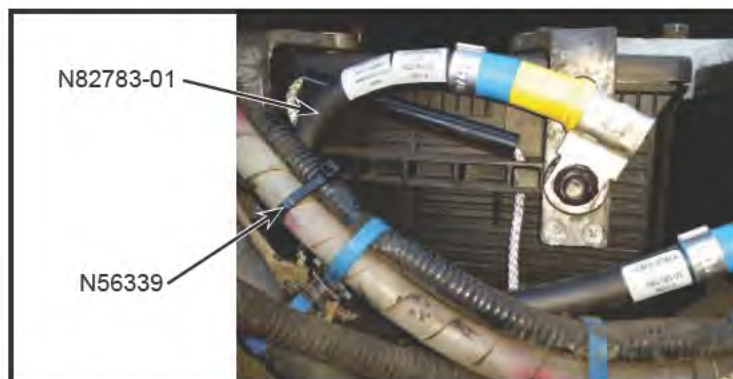

Figure 8 - Installation of New Battery Cable (N82783-01)
- 1.9. Install N82783-01 battery cable between the batteries. Install N56339 cable ties to support the battery cable. Do not tighten the nuts (see Figure 8).